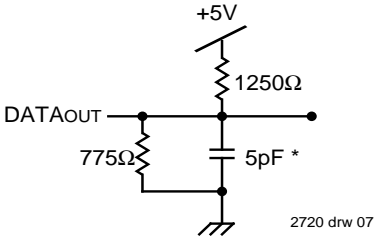

Figure 2. Output Test Load
1. Transition is measured  $\pm 500\text{mV}$  from Low or High-impedance voltage with the Output Test Load (Figure 2).
- Transition is measured  $\pm 500\text{mV}$  from Low or High-impedance voltage with Output Test Load (Figure 2).
1. Transition is measured  $\pm 500\text{mV}$  from Low or High-impedance voltage with Output Test Load (Figure 2).